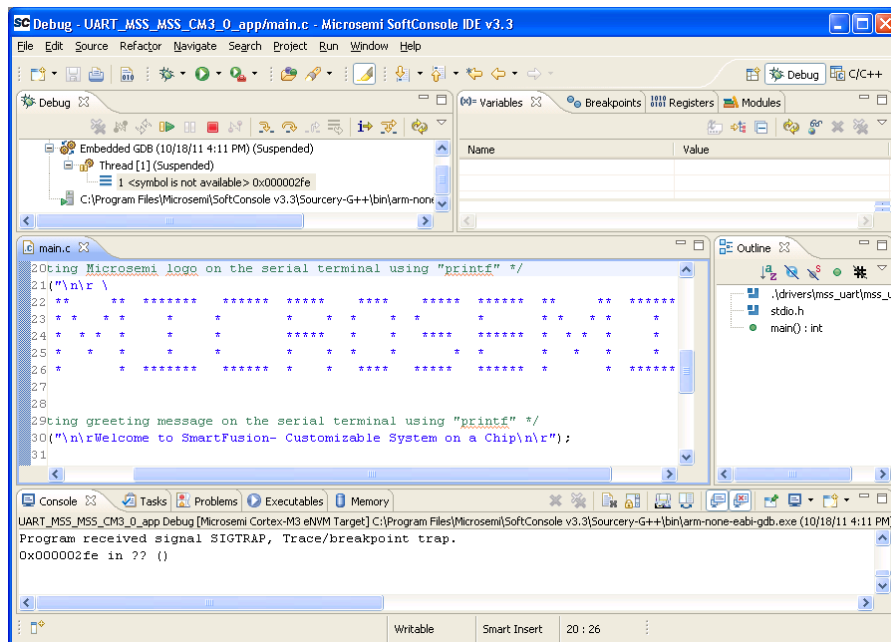

Figure 33 · The SoftConsole Debug Perspective
14. The SoftConsole Debug Perspective should now resemble Figure 33 .